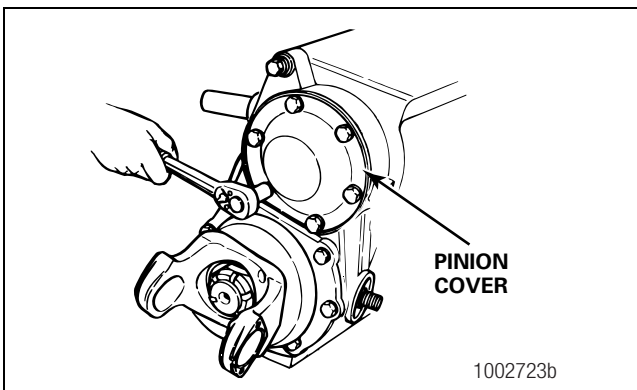

Figure 3.19
2. Remove the capscrews and the washers that fasten the drive pinion cover to the differential carrier. Remove the cover. Remove all gasket material from the cover and the differential carrier. Figure 3.19.